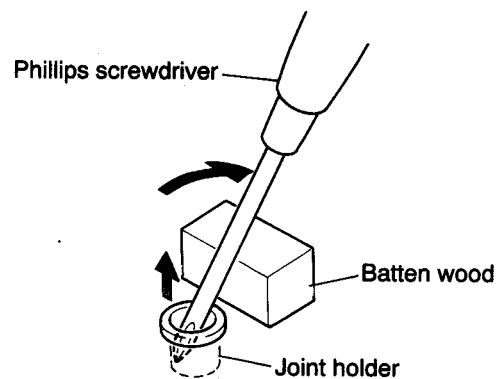

Fig. 5-60
■ Removing the joint holders (See Fig. 5-60)
Insert a Phillips screwdriver into each joint holder and remove it by levering. To avoid damaging the wooden cabinet, place a piece of batten wood as shown in Fig. 5-60.